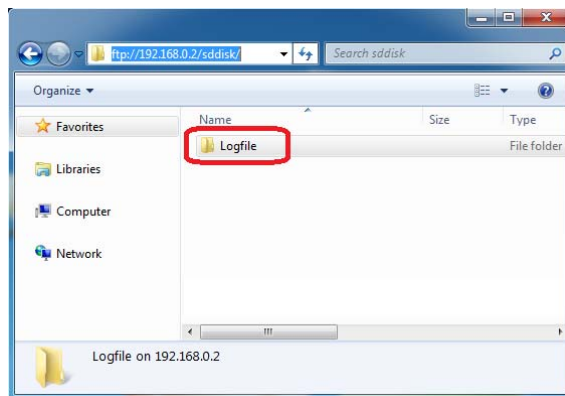

Figure 6-37 Newly created "Logfile" directory in the "sddisk" directory
- Enter a name for the new directory (in the example in Figure 6-37 "Logfile").